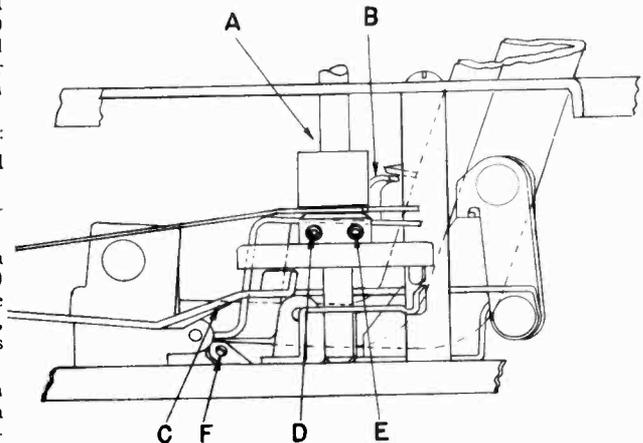

Fig. 5. Adjustment Points
Should further adjustment be necessary, proceed as follows: Operate the mechanism by revolving the turntable manually until the stylus drops to within  $\frac{1}{2}$  inch of a 10-inch record on the turntable. With a No. 8 Bristol wrench in each of the set screws (points D and E, Fig. 5), alternately loosen one and tighten the other until the stylus rests above the records lead-in groove at the desired point.
**F. PICK-UP ARM LIFT**—The stylus should clear the top record of a full stack of records upon the turntable by approximately  $\frac{1}{8}$  inch in its approach to, or return travel across the record. Adjust by bending the Pick-up Arm Raising Lever (38) at point "C" shown in Figure 5. *Do not attempt to move Pick-up Arm Raising Disk Hub (31) up or down* as this would upset the adjustment of the Automatic Lock Lever mentioned in a previous paragraph.
**G. RECORD DROP ADJUSTMENT**—The distance between the Record Selector Fingers (61) and the Record Spindle is critical and should be adjusted as accurately as possible. If this distance is too great, records of minimum diameter will not be pushed off the spindle step during the change cycle. If it is too short, records of maximum diameter will either be over the tips of the record selector fingers (resulting in no record drop and improper pick-up arm index), or be pushed against the spindle with undue force, causing center hole of the record to become damaged.